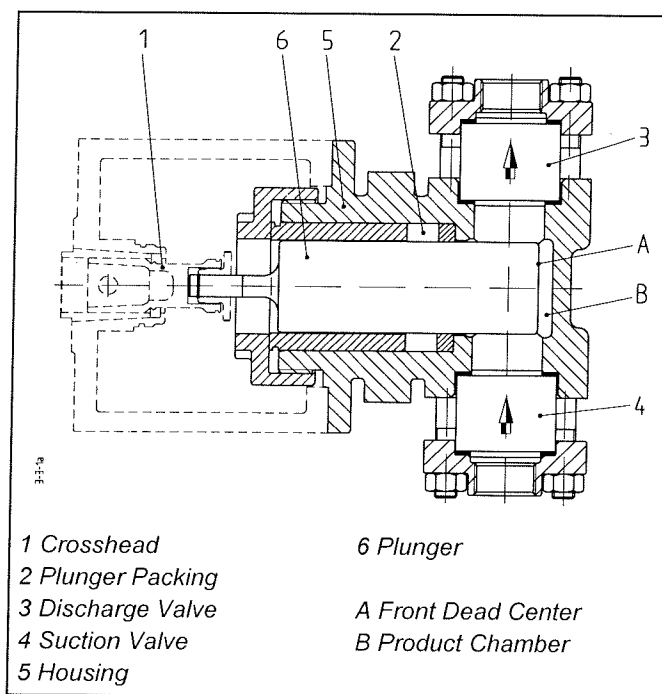

Fig. 3.1: Plunger at Front Dead Centre
The plunger packing (2) situated between plunger (6) and housing (5) seals the product chamber (B) to the atmosphere. The suction (4) and discharge valves (3) are selfacting valves. They are operated by pressure differences between the product chamber (B) and the discharge and suction pressures. The plunger (6) is connected to and driven by the crosshead (1). (See Fig. 3.1 and 3.2).